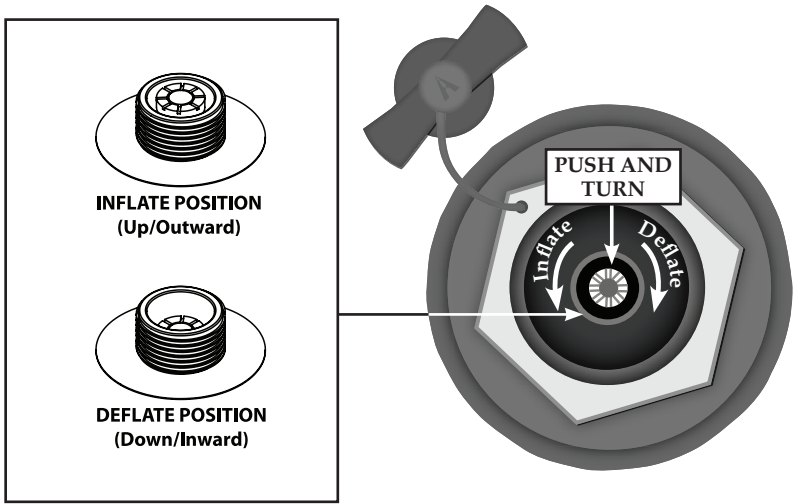

Figure 1. Inflate/ Deflate Spring Valve
1. Locate chamber 1. Unscrew cap and check that plunger valve is in the inflate position. Inflate Chamber 1 until firm to the touch (**2.25 psi ONLY**). (See figure 1 on pg 10).
2. Proceed to chamber 2. Inflate chamber 2 until StraitEdge™ tube is firm to touch (**2.25 psi ONLY**). Close caps on chambers 1 and 2 tightly. (See figure 1 on pg 10).